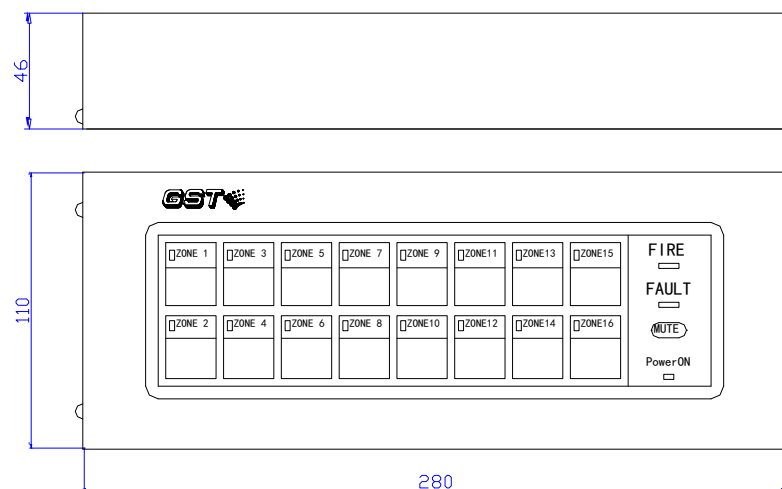

Fig. 1
1. GST-RP16 is wall-mounted. Its appearance is shown in Fig. 1.